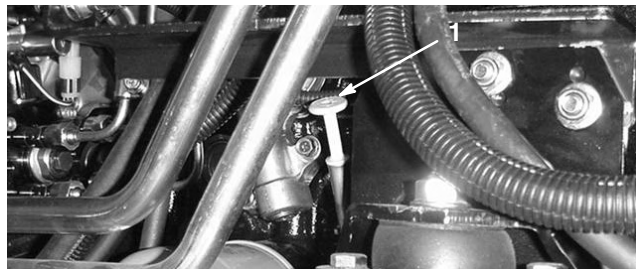
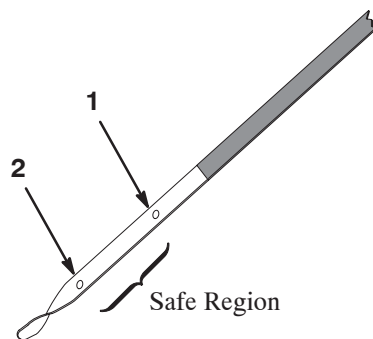

Figure 5
Figure 7
3. Remove dipstick (Fig. 5), wipe with a clean rag, and insert into tube until fully seated. Remove dipstick from tube and check oil level. If oil level is low, remove filler cap (Fig. 6). Add proper type of oil until level is between the upper and lower holes on the dipstick (Fig. 7). **Do not overfill.**